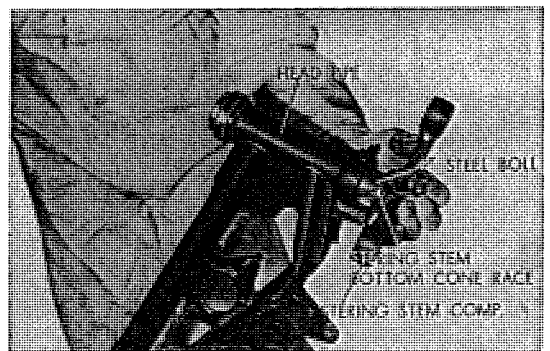

Fig. 4.25 Removing steering stem in downward direction
4. Loosen the steering head top thread (complete) by spanner and remove the steering stem in a downward direction. (Refer to Fig. 4.25)